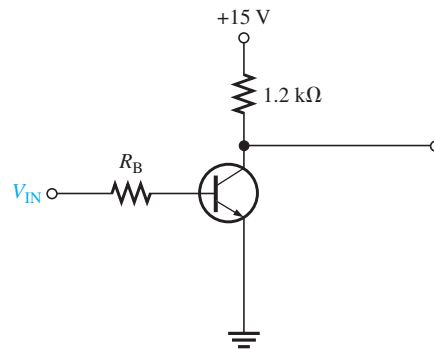

FIGURE 3-78
- 34. The transistor in Figure 3-78 has $\beta_{DC} = 100$. Determine the maximum value of R_B that will ensure saturation when V_{IN} is 5 V.